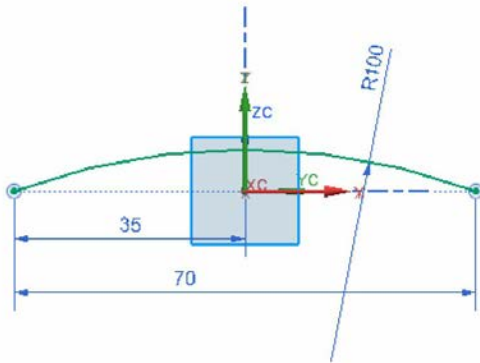

Figure 11-69 Sketch of the base feature
- b. Create the base feature by extruding the base sketch, refer to Figures 11-69 and 11-70.
1. Create the sketch of the base feature on the YC-ZC plane, as shown in Figure 11-69.